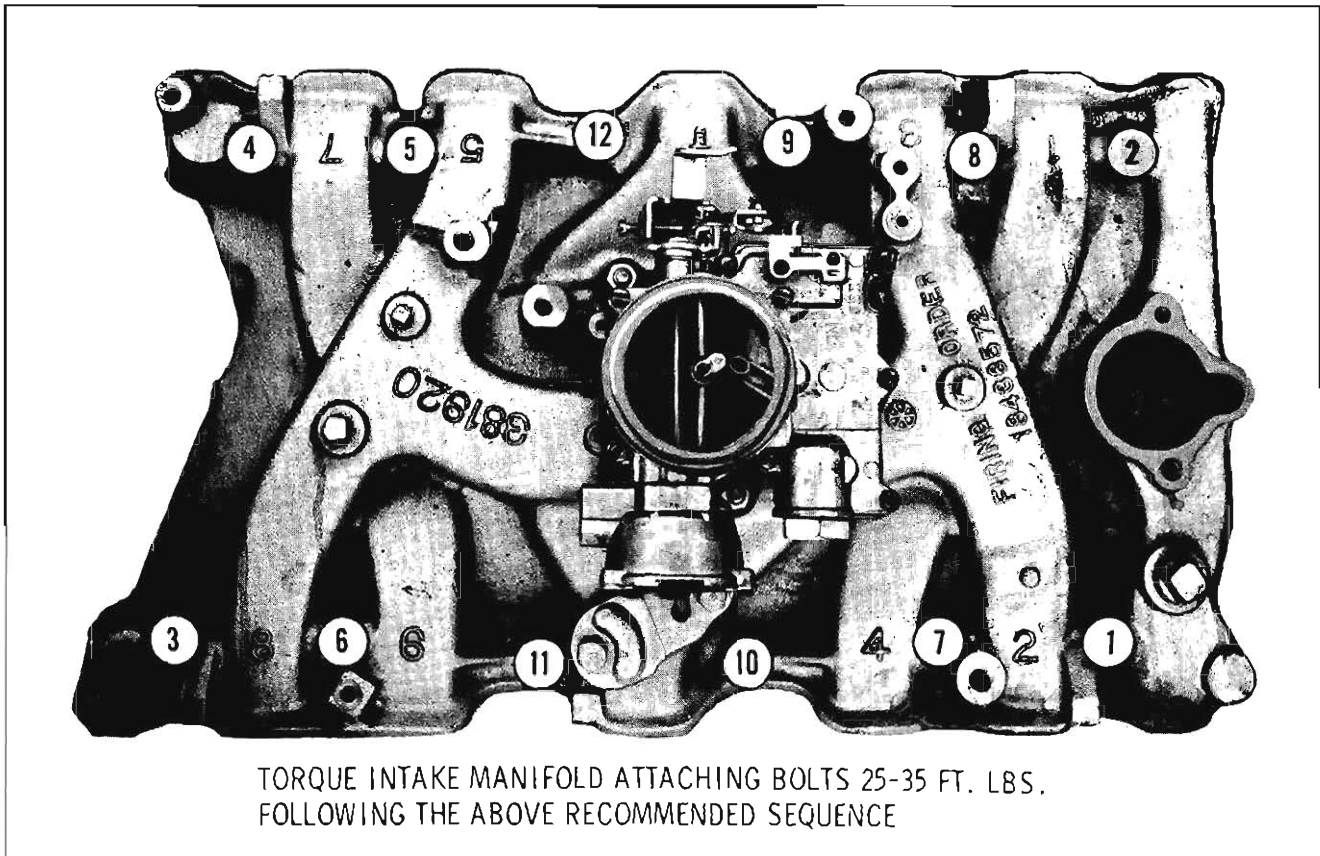

Fig. 3-404 Intake Manifold Torque Sequence
4. Install intake manifold bolts. Torque alternately 25 to 35 ft. lbs. (Fig. 3-404)